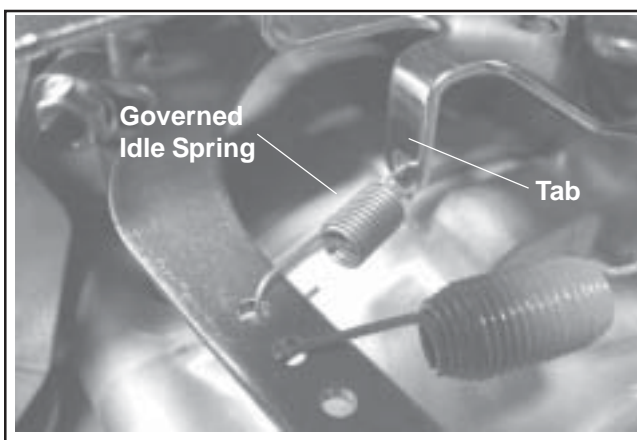

Figure 5-41. Governed Idle Spring Location.
An optional governed idle control system is supplied on some engines. The purpose of this system is to maintain a desired idle speed regardless of ambient conditions (temperature, parasitic load, etc.) that may change. Engines with this feature contain a small secondary spring connected between the governor lever and the lower adjustment tab of the main bracket. See Figure 5-41.
3. Release the governor lever and allow the engine to return to the governed idle speed. Check it with a tachometer against the equipment manufacturers recommended idle speed. Governed Idle Speed (RPM) is typically 300 RPM (approximate) higher than the low idle speed. If adjustment is necessary, bend the adjusting tab on the speed control assembly to set. See Figure 5-41.